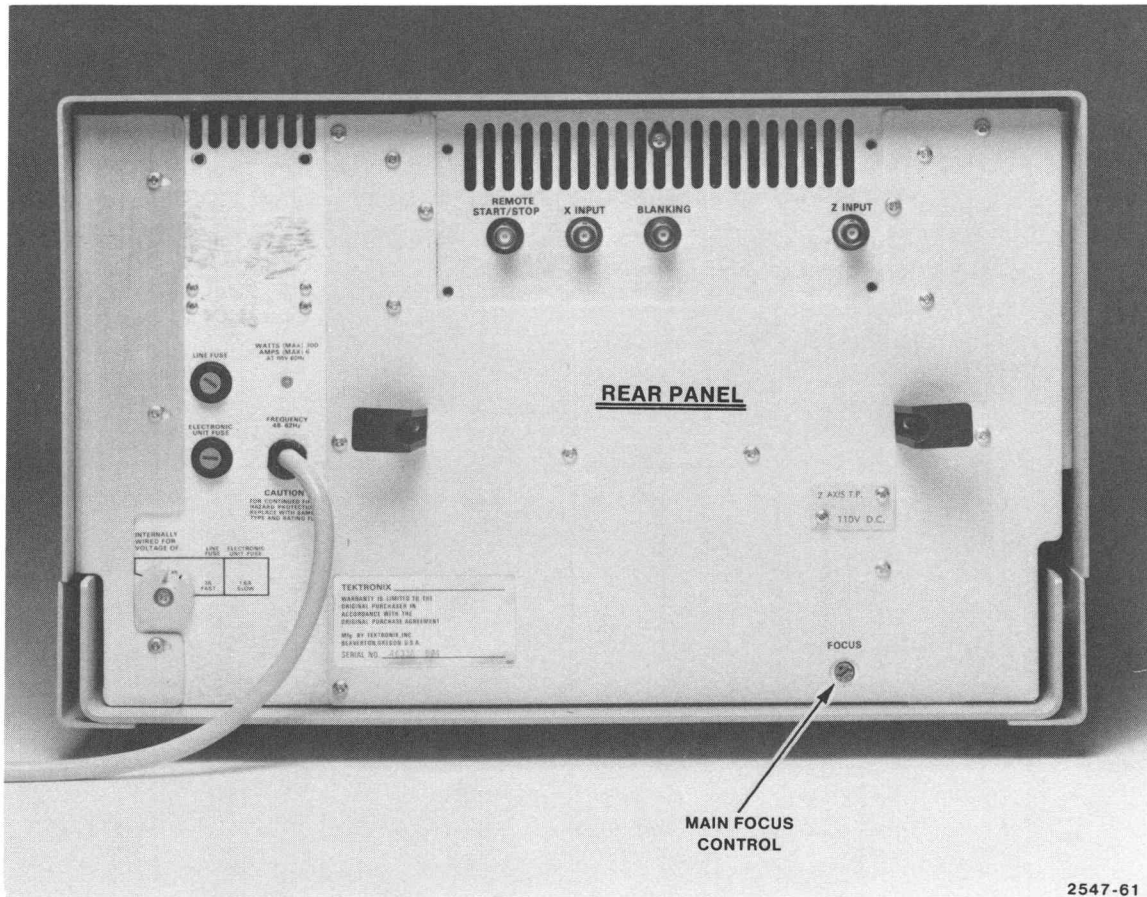

Figure 4-32. Main Focus Control.
- 2) ADJUST—the main FOCUS control on the rear panel (Figure 4-32) for the best focus of the trace at the center of the crt.